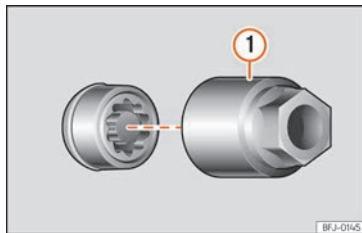

Fig. 37 Anti-theft wheel bolt with cap and adapter.
- Insert the special adapter »» Fig. 37 ① (vehicle tools »» page 38) onto the anti-theft wheel bolt and push it on as far as it will go.